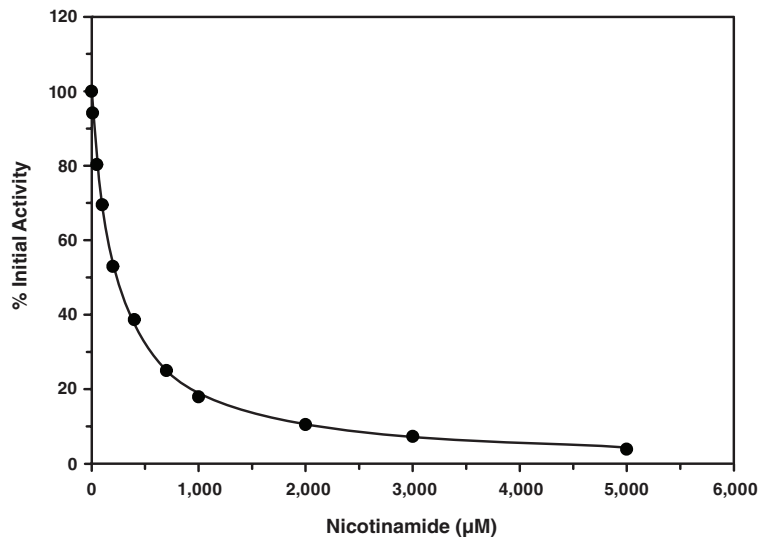

Figure 3. Inhibition of SIRT2 by Nicotinamide ($IC_{50} = 250 \mu M$)
4. Either graph the Percent Inhibition or Percent Initial Activity as a function of the inhibitor concentration to determine the IC_{50} value (concentration at which there was 50% inhibition). An example of SIRT2 inhibition by nicotinamide, a sirtuin-specific inhibitor, is shown in Figure 3, on page 16.